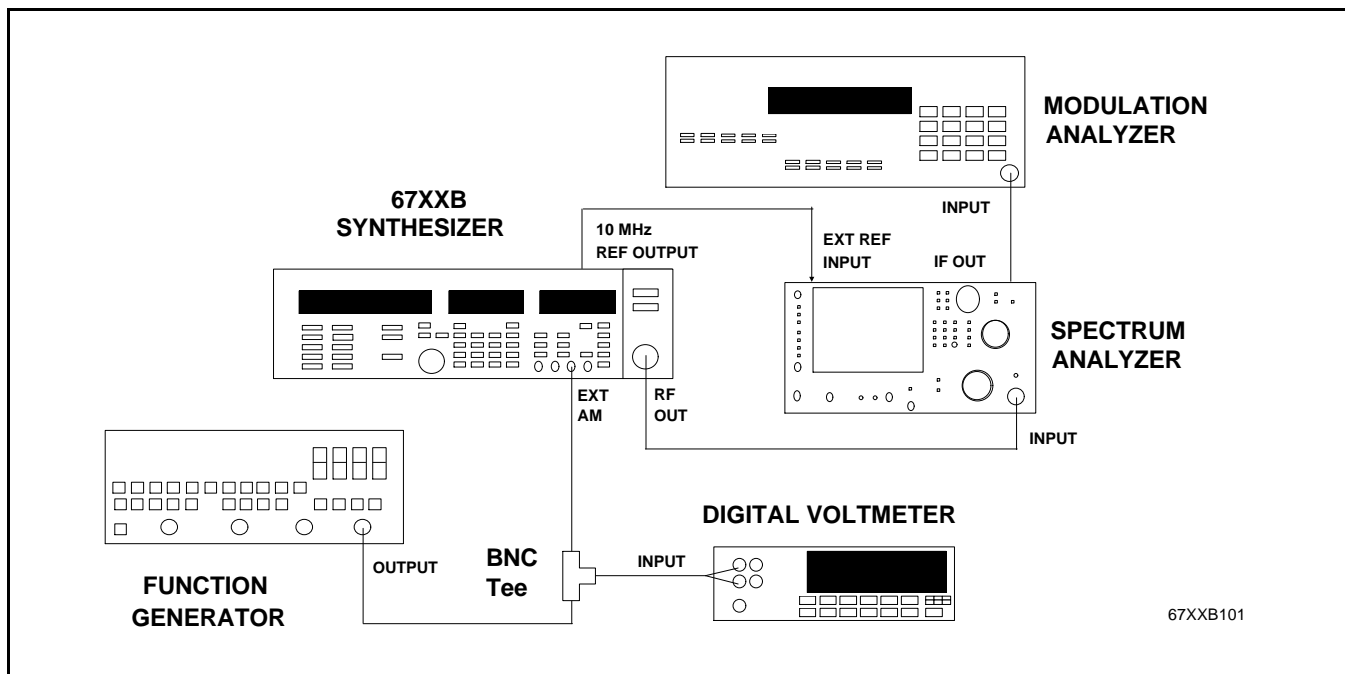

Figure 2-17. Equipment Setup for AM Modulation Tests (0.01 to 20 GHz)
1. Connect the equipment, shown in Figure 2-17, as follows: